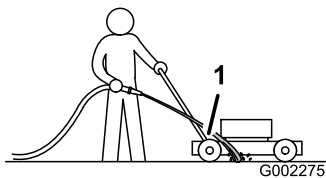

Figure 35
3. Hold the running garden hose at handle level and direct the water to flow on the ground just in front of the **right** rear tire (Figure 35).